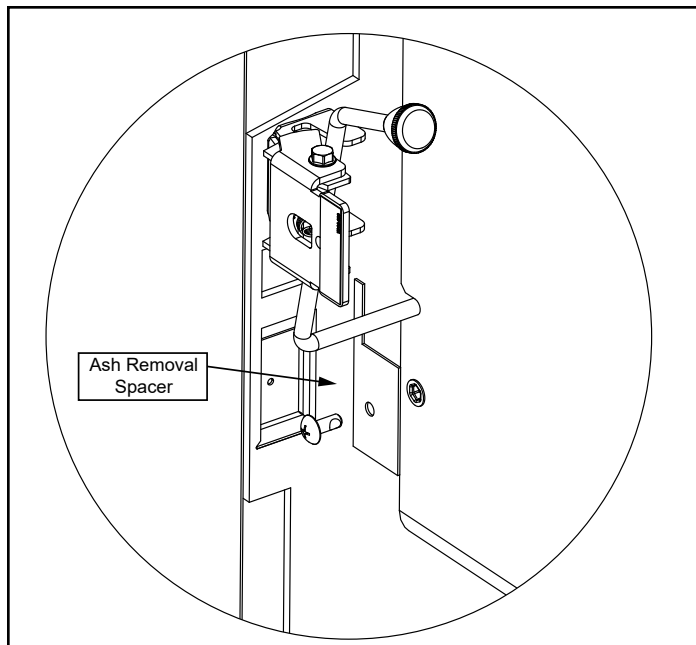

Figure 22.4
3. Install ARS Spacer on left hand side with one bolt using Phillips head screwdriver (**Figure 22.4**).
2. Install ARS Spacer on left hand side with one bolt using Phillips head screwdriver (**Figure 22.4 on page 22**).